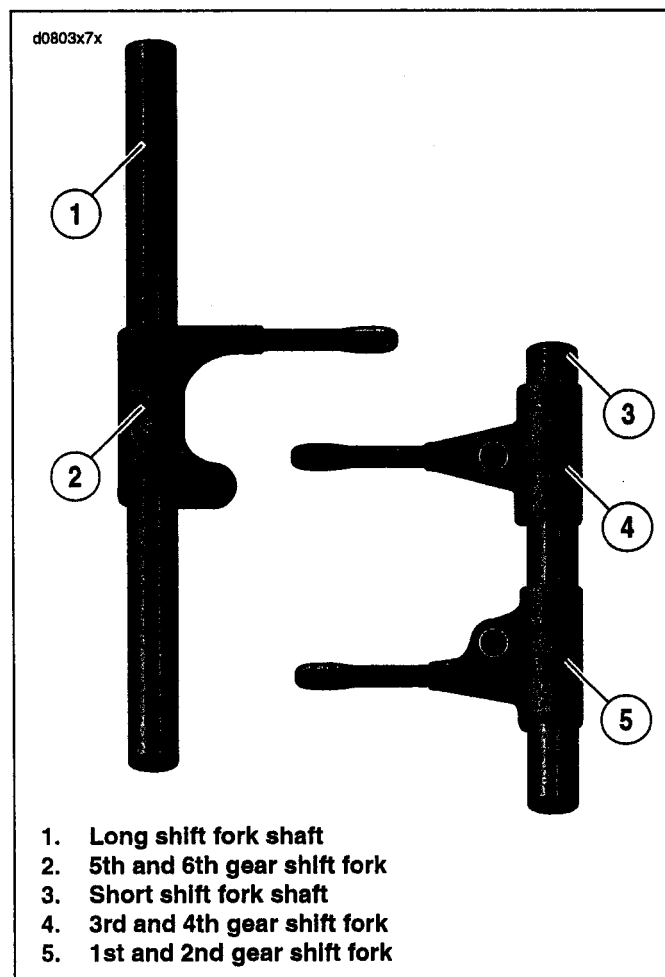

Figure 12. Shift Forks and Shafts
5. See Figure 12. Make certain shift forks and shafts are assembled as shown.